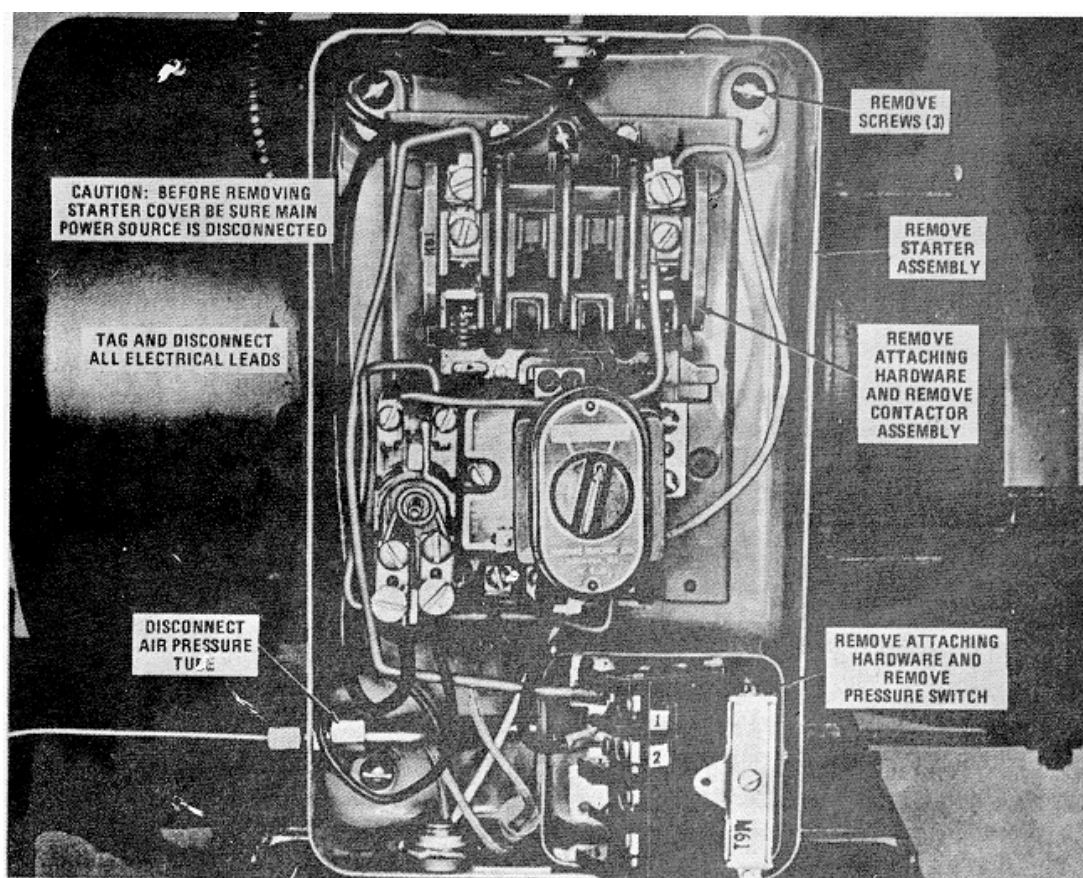

Figure 12. Magnetic starter with pressure switch, removal and installation (shown with cover removed)
1. Removal. Re-move the magnetic starter as instructed on figure 12.
2. Disassembly. Refer to figure 12 and remove magnetic starter components as instructed.
4. Reassembly. Refer to figure 12 and reassemble magnetic starter components.
5. Installation. Install the magnetic starter as illustrated on figure 12.